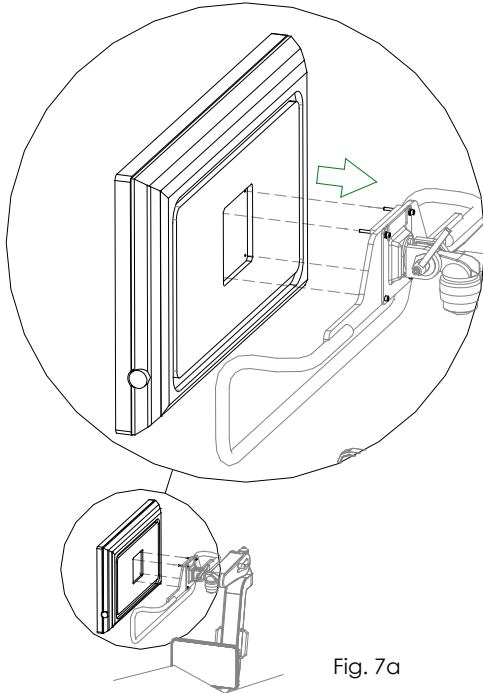
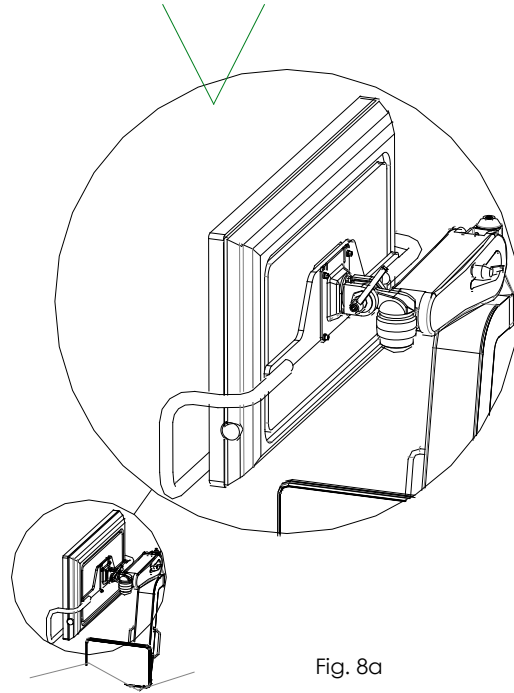

Fig. 7a
Fig. 8a
- 5 Bring the monitor closer to the mounting plate, aligning it with the 4 anchoring screws (fig. 7a). Tighten the 4 anchoring screws (fig. 8a).